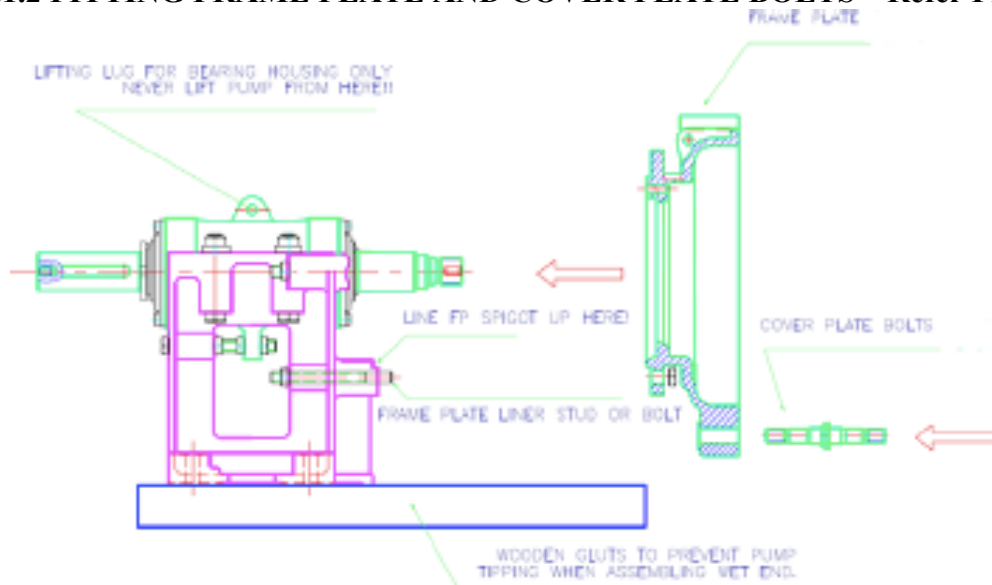

Figure 2-Assembling Frame Plate and Cover Plate Bolts
5.1.2 FITTING FRAME PLATE AND COVER PLATE BOLTS – Refer Fig 2